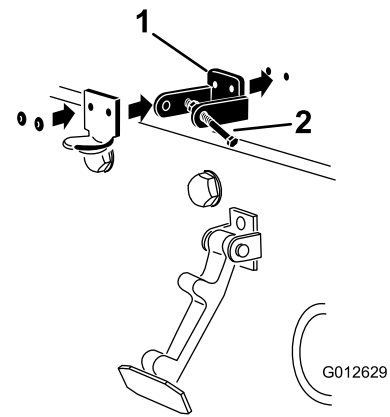

Figure 13
Note: The lock bracket must be against the hood (Figure 13). Do not remove the bolt and nut assembly from the lock-bracket arm.
5. Rivet the brackets and the washers to the hood (Figure 13).